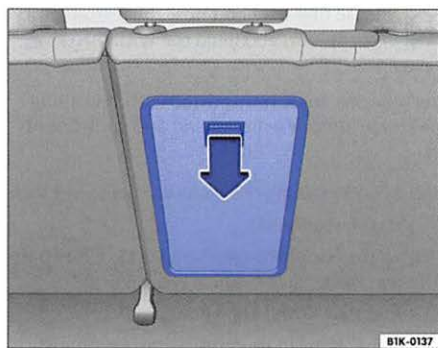

Fig. 89 In the luggage compartment: Opening the pass-through.
- Fold the pass-through cover back until it engages securely. The red mark on the luggage compartment side ⇒ fig. 89 should not be visible.
The pass-through can also be opened from the luggage compartment. Press the release lever ⇒ fig. 89 down and push the cover forward. ◀